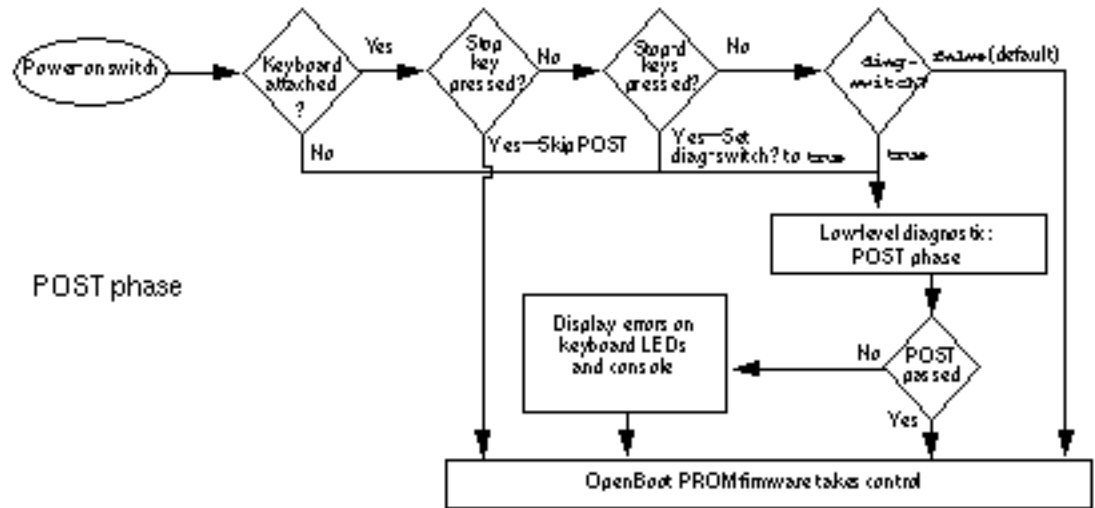
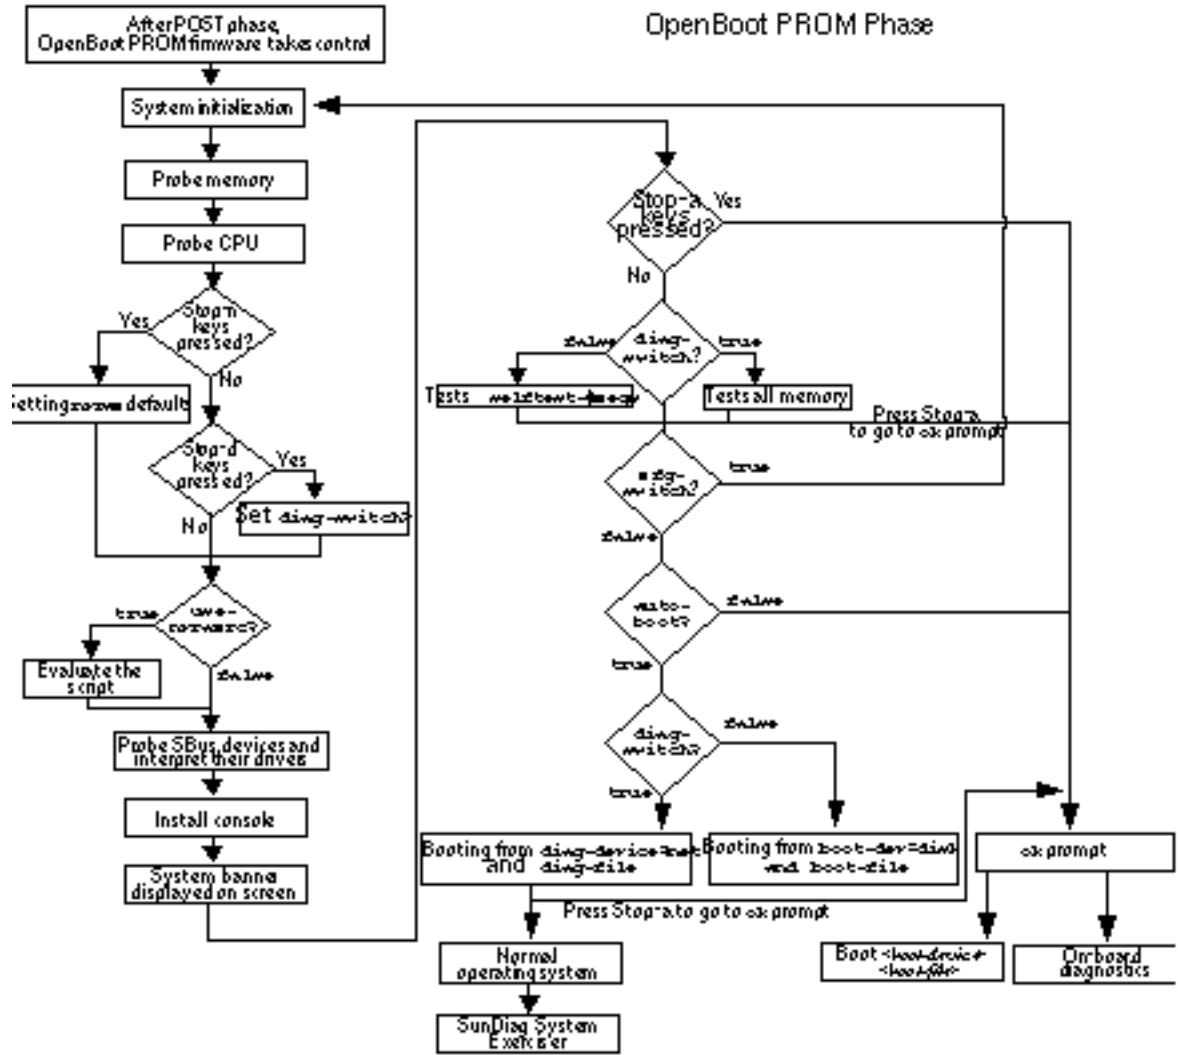

Figure 2-1 Factory-Defined Boot Sequence—POST Phase Settings and Tests
Figure 2-2 Factory-Defined Boot Sequence—OpenBoot PROM Phase Settings and Tests
The flowcharts in Figure 2-1 and Figure 2-2 outline the roles played by various diagnostics during a *factory-defined boot* operation under the control of the OpenBoot™ PROM (OBP) firmware.
Figure 2-1 (POST phase) and Figure 2-2 (OBP phase) graphically depict the flow of OBP processing control, after power is switched on. Each figure depicts the possible paths for processing control, and the switch settings for the factory-defined boot sequence. By examining the two flowcharts you can see where in the processing sequence other diagnostic tests are available or are encountered.
- Install the console (see Figure 2-2)